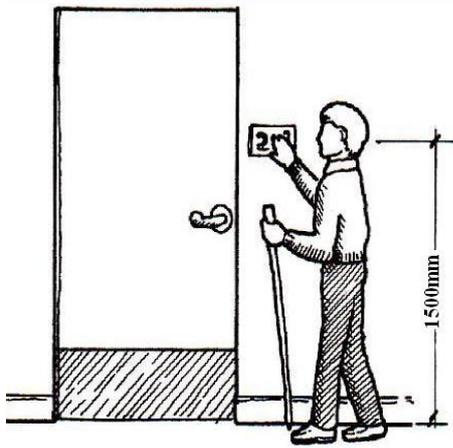

Figure 5-4. Placement of Braille Signage
- **Room Number/ Identification Information Sign:** The sign should consist of 1-1.5mm raised and 25mm high numbers/letters with contrasting colour background. Information in Braille to be provided directly below numbers. Maintenance rooms, utility closets need not have identification information; room number is sufficient. Room number to be placed on walls adjacent to room doors on the latch side. It should be placed on walls adjacent to room doors on the latch side, 50mm away from door frame, 1400mm-1600mm from floor, provided towards latch side of the door (Figure 5-4).